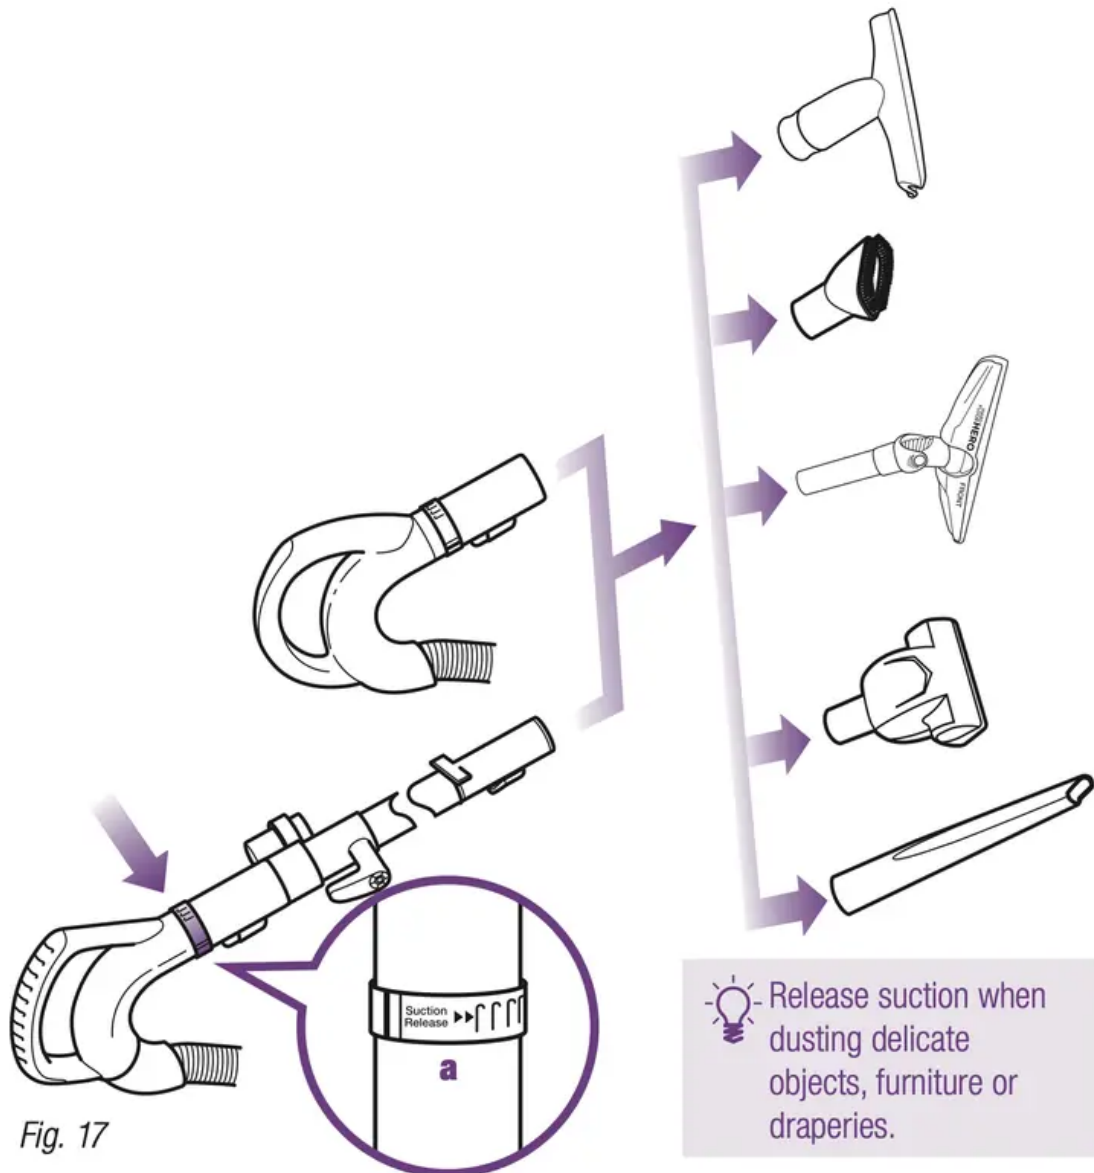

Fig. 17
2. Attach desired accessory onto the end of either the extension wand or the handle. (Fig. 17)
the valve (a) by rotating the collar clockwise 90° for high suction and when using the hand held power brush. (Fig. 17-a)